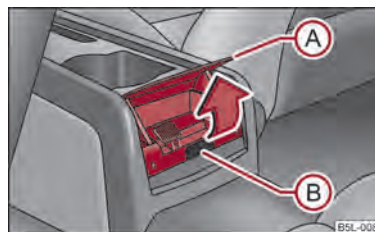

Fig. 72 Low centre console: Rear ashtray
- Grasp the ashtray cover at the lower edge (A) and fold it open in the direction of arrow ⇒ fig. 72.